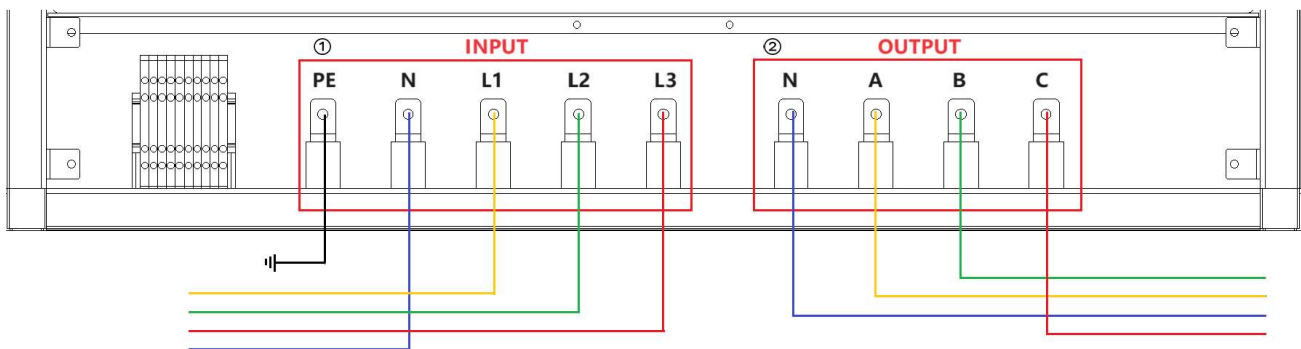

Figure 2-4
Step 2: Connect the cables to the input and output copper bars (Figure 2-4).